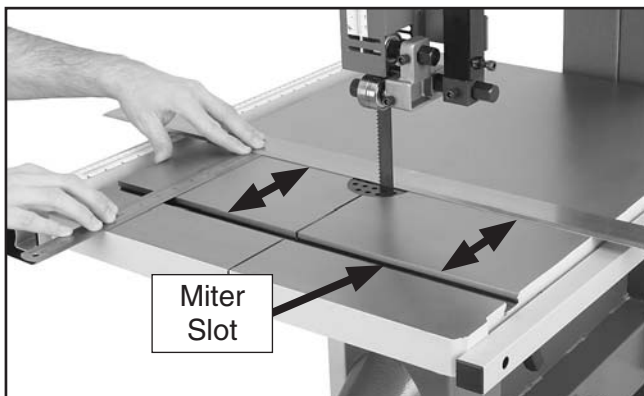

Figure 32. Example of table alignment.
5. Use a fine ruler to gauge the distance between the straightedge and the miter slot. The distance you measure should be the same at both the front and the back of the table (see **Figure 32**).